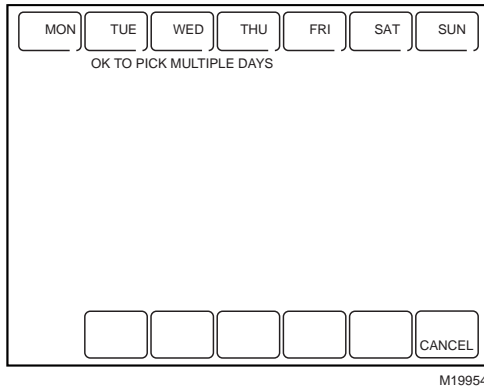

Fig. 36. Initial schedule edit screen.
- The first time a change is made, the screen appears mostly blank. (See Fig. 36.)